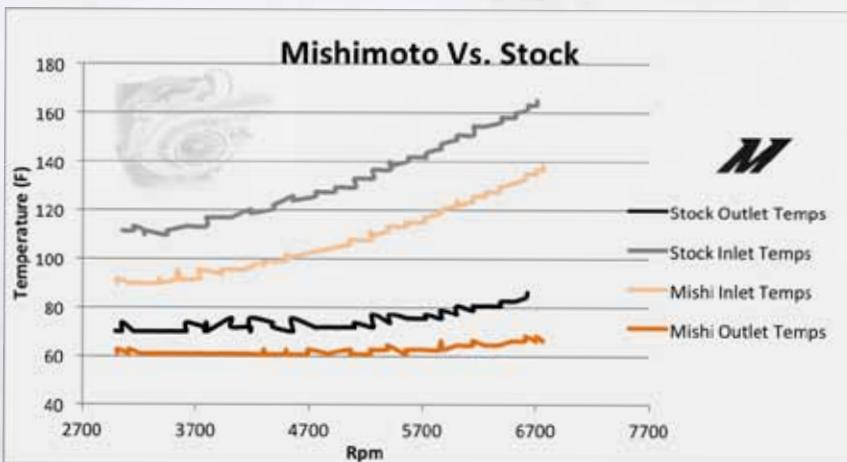

Figure 2.1
NOTE: All data are averaged from three dyno pulls. All temperatures are Fahrenheit (F). The graphs below present the various temperature data recorded during testing of the **BMW front-mount intercooler (FMIC). Figure 2.1 shows pre- and post-intercooler temperatures during a 4th gear pull. The Mishimoto intercooler lowered AIT by about 20 degrees.